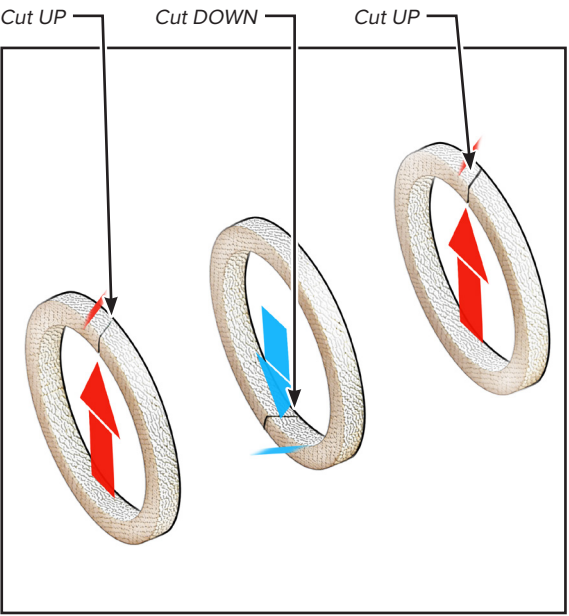

FIGURE 9
- 11. Wrap the first ring around the shaft and note the position of the joint (Figure 9).
- 14. Wrap the second ring around the shaft and offset the joint 180° from the position of the first ring (Figure 9). Push it into the packing gland using the packing retainer then slide packing retainer out of packing gland pocket.
- 15. Wrap the third ring around the shaft and offset the joint 180° from the second ring (Figure 9). Push it into the packing gland pocket using the packing retainer.